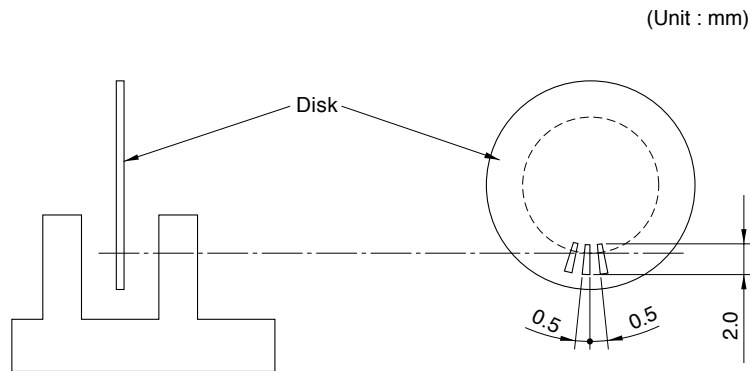

Fig.1 Low Level Output Current vs. Ambient Temperature
*2 Collector current of output transistor, refer to Fig.1.